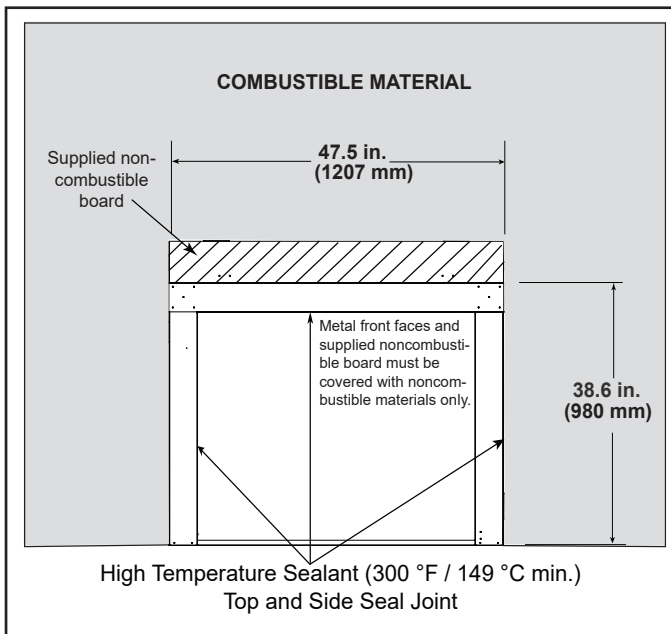

Figure 10.1 Non-combustible Facing Diagram (Indoor Side)
- Seal joints between the finished wall and appliance top and sides using a 300 °F minimum sealant. Refer to Figure 10.1.